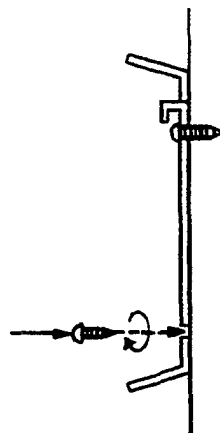

Figure 1-11 Securing the KSU to the Wall Mount Template
3. Secure the KSU to the wall mount template by inserting one of the other two provided screws in each lower opening in the KSU base. (Refer to Figure 1-11 - Securing the KSU to the Wall Mount Template.)